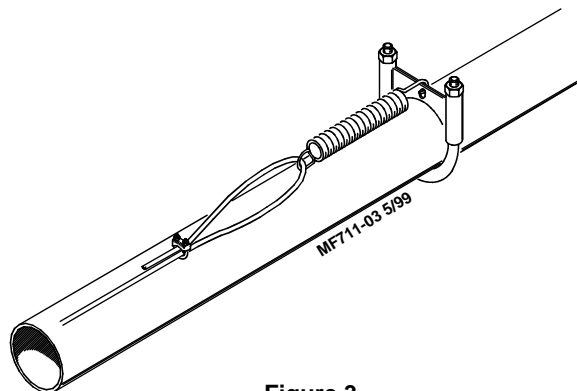

Figure 3.
2. Drill a 1/4" [6 mm] hole in the flat metal portion of a tube clamp to anchor spring on each side of the winch. See Figure 3. Attach the Tube Clamp/Spring assemblies to the feeder line tube at a maximum distance of 100 feet [30 m] from the winch. See Figure 1.